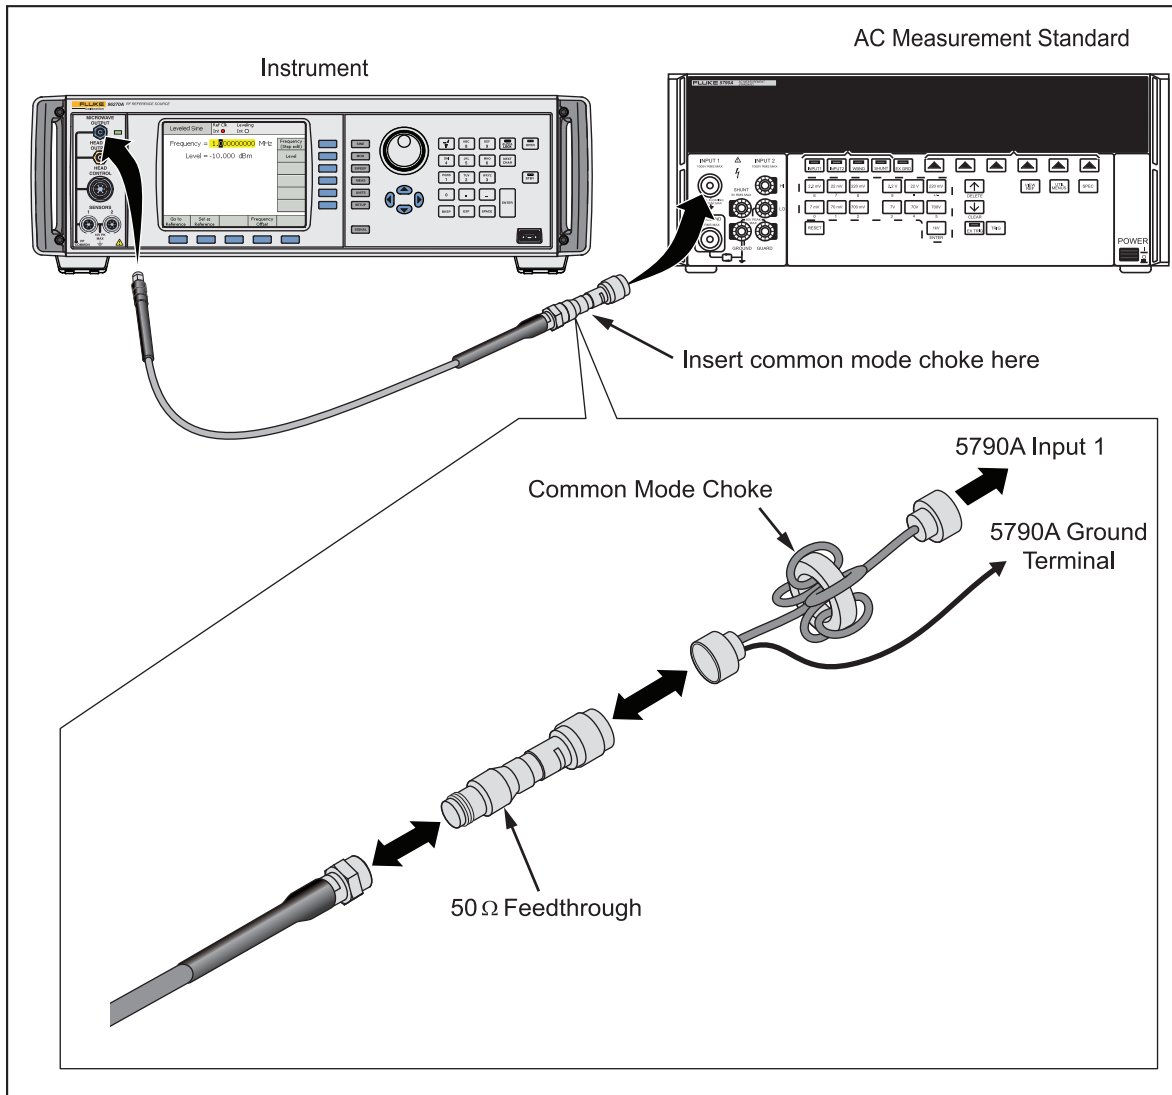

Figure 3-15. Microwave Output Level Accuracy Tests, Low Frequency Points Connections
1. Connect the UUT Microwave Output to the INPUT 1 connector on the ac measurement standard using a cable and precision 50 Ω feedthrough termination located at the ac measurement standard input. (If a Type-N feedthrough termination is not available, use a BNC 50 Ω feedthrough termination and appropriate adapters. Ensure that BNC connector contact resistance and repeatability does not significantly degrade measurement uncertainty). Select INPUT 1. See Figure 3-15. Microwave Output Level Accuracy Tests, Low Frequency Points Connections for equipment connections.